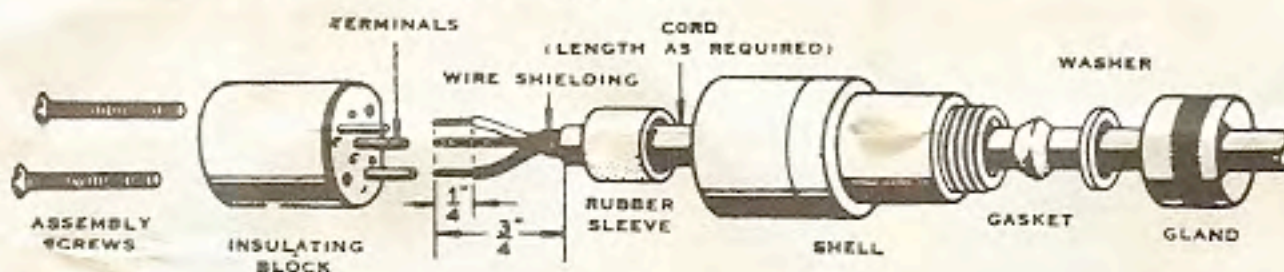

Figure 1
1. Thread the cord through the gland, the washer, the gasket, the shell and the rubber sleeve. See Figure 1.
4. Re-form the wire shield as small as possible and cut the shield and the two conductors to 3/4-inch long. See figure 1.
5. Remove the insulation for 1/4-inch from the two conductors. See Figure 1.